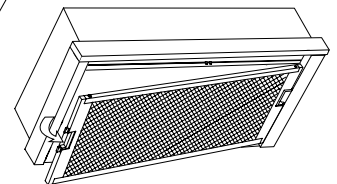

Fig. 2
3. Pull filter downwards to remove. Repeat 2 & 3 for models with a second filter. Fig 2.